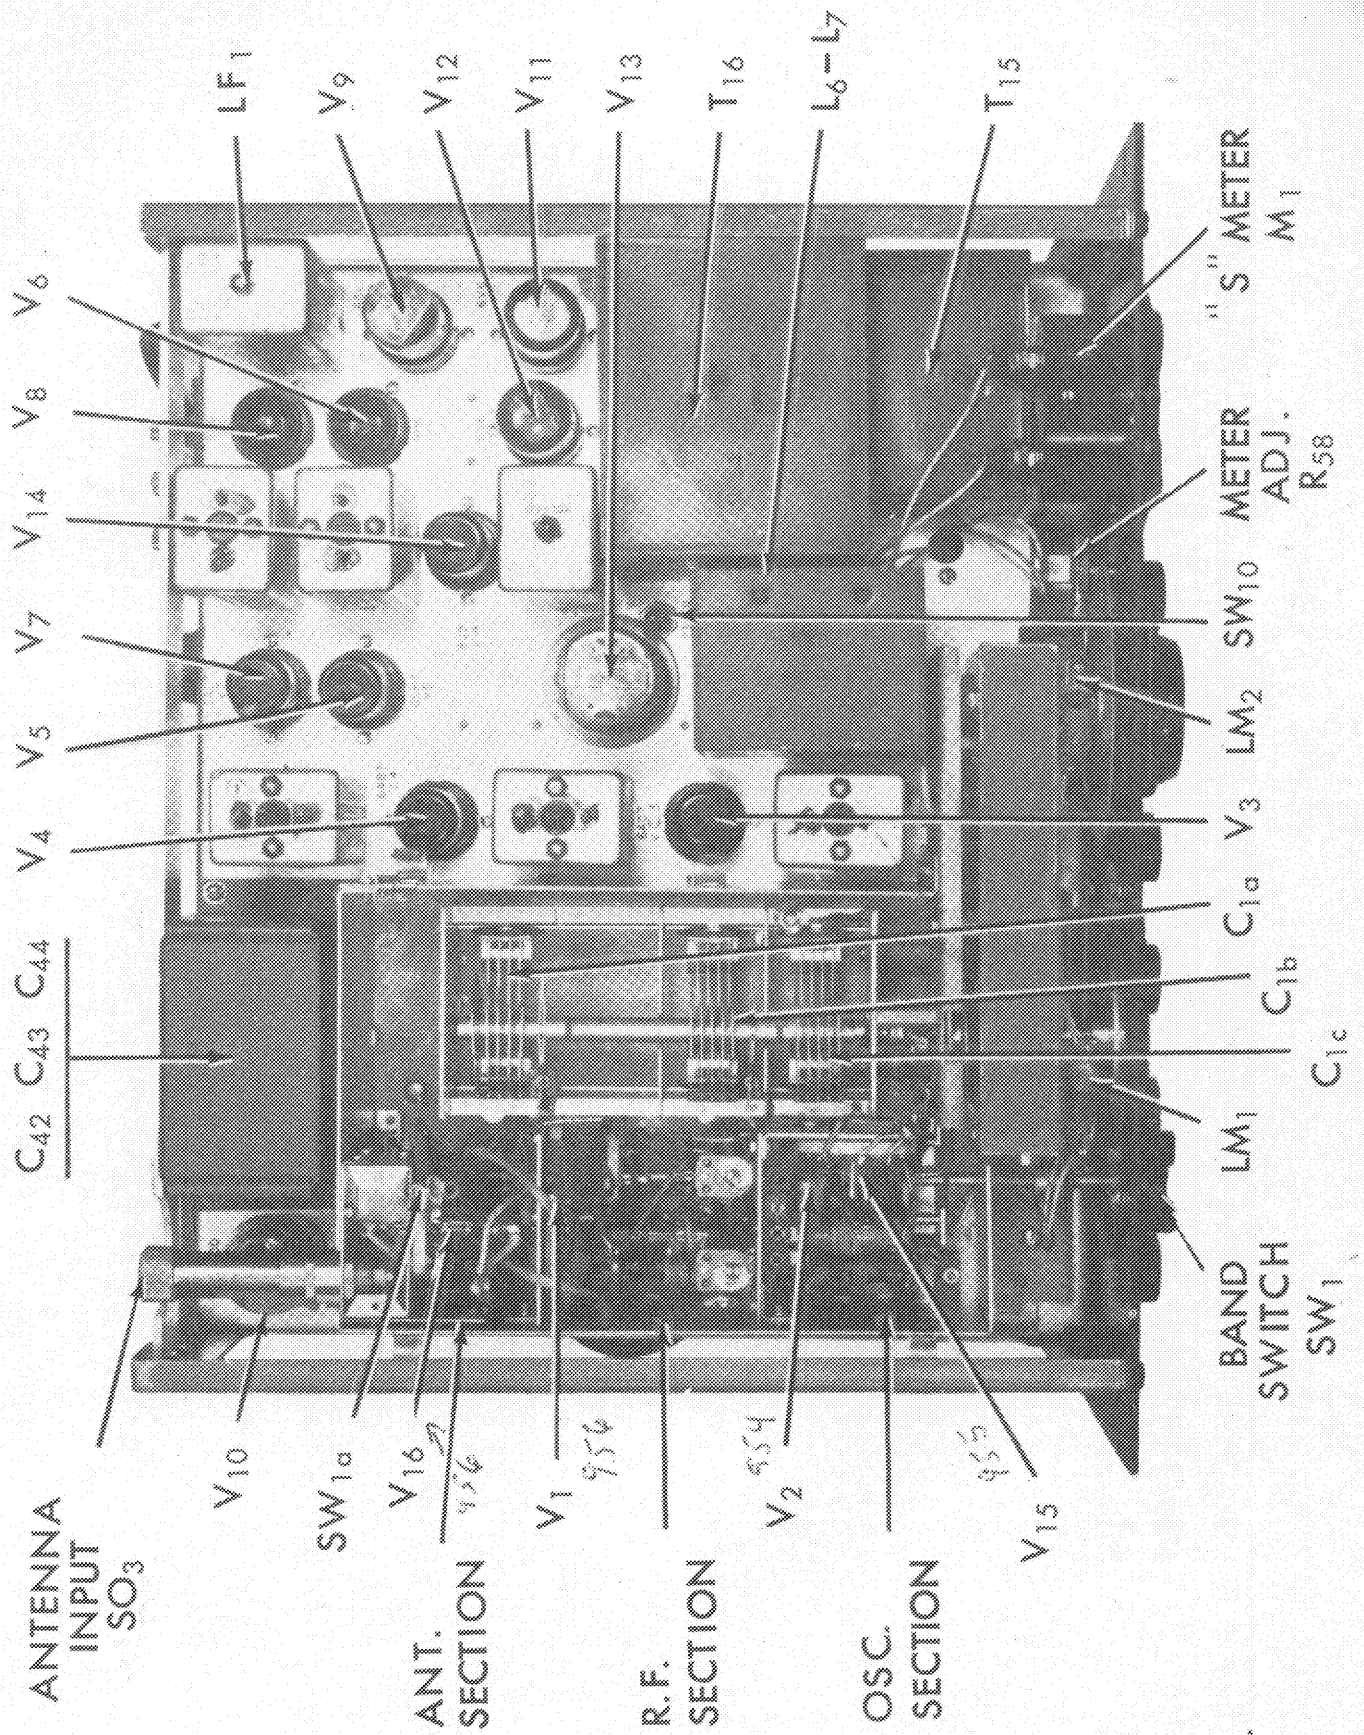

Figure 4. Radio Receiver CHL-46298, Top View Of Chassis
c. All tubes with the exception of the four acorn type tubes can be reached from the top of the chassis. Acorn tubes V1, V2, V15 and V16 are reached by removing the top cover plate of the r-f sections. See figure 4 for location of all tubes.
a. See that the tubes are secure and in their proper sockets. Reference to figure 4 will show their proper location. The four acorn type tubes are made accessible by removing the shield cover over the r-f section.